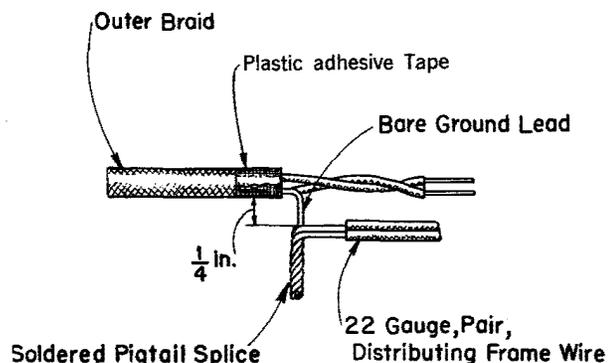

Fig. 11 - Splicing Bare Ground Wire
9.03 If the shield is to be terminated at a point other than a terminal strip which the ground wire will reach, connect a length of 22-gauge paired distributing frame wire to the ground wire with a 1/2-inch splice 1/4 inch from the end of the butt. Solder the splice and bend the splice back, laying it along the plastic adhesive tape at the butt (see Fig. 11). This wire should be kept as short as possible and be run in the most direct manner.